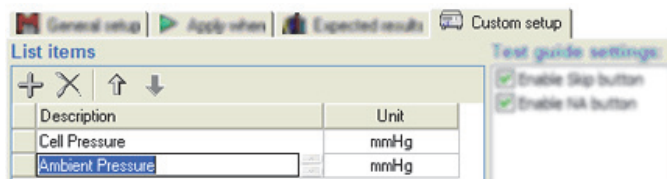

Figure 3-38. Defining the Numerical List
9. Click the textbox below the column header named **Description**. A blank textbox is added in the column under Description shown in Figure 3-38.